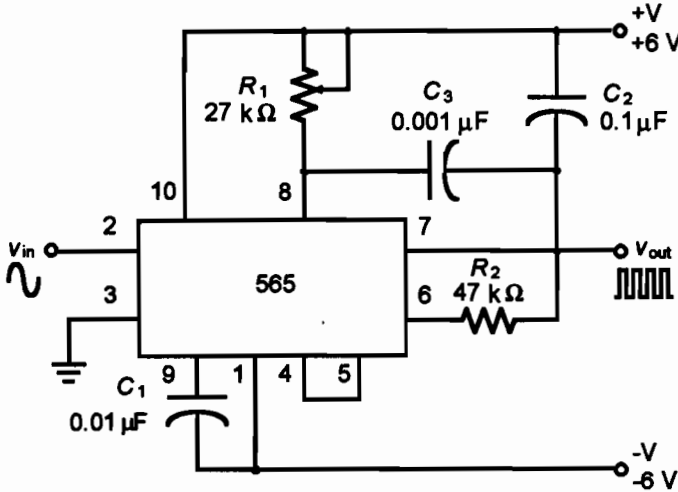

Figure 72.1
for Figure 72.1
1. Preset potentiometer  $R_1$  for 20 k $\Omega$ . Carefully construct the circuit shown in Figure 72.1. Apply power.